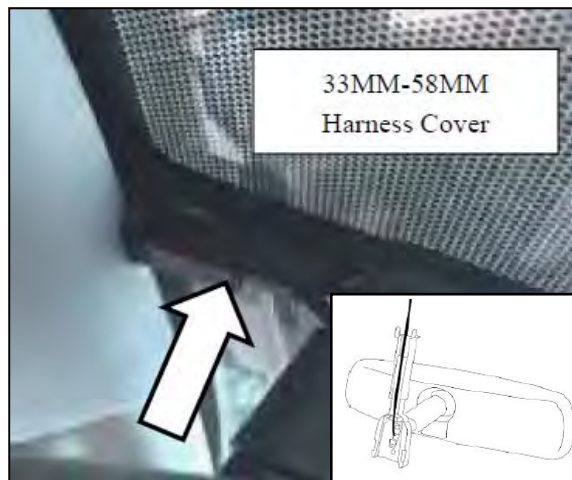

Figure 22
22. Install the 33MM-58MM wire harness cover (SET part # 00016-05463-04) over the wire harness. Seat the bottom of the cover securely to base of the mirror. Extend the top of the cover fully into the headliner. See Figure 22.